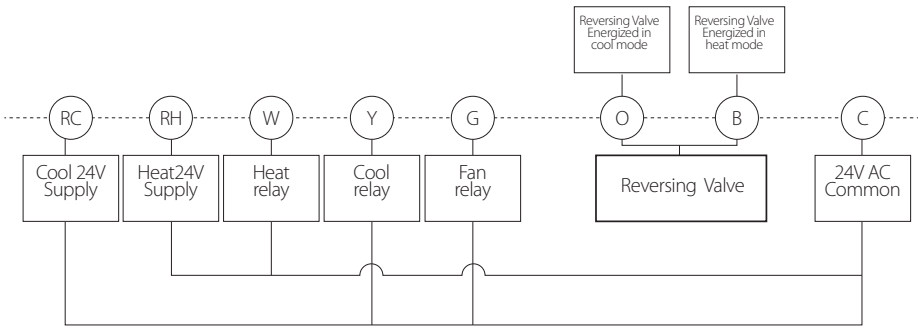

Figure 3, Typical wiring diagram for heat/cool, 5 wire two transformer system.
- 9** Insert stripped, labeled wires into matching wire terminals. See "**Wiring Diagrams**", **Section 3, Figure 3**.